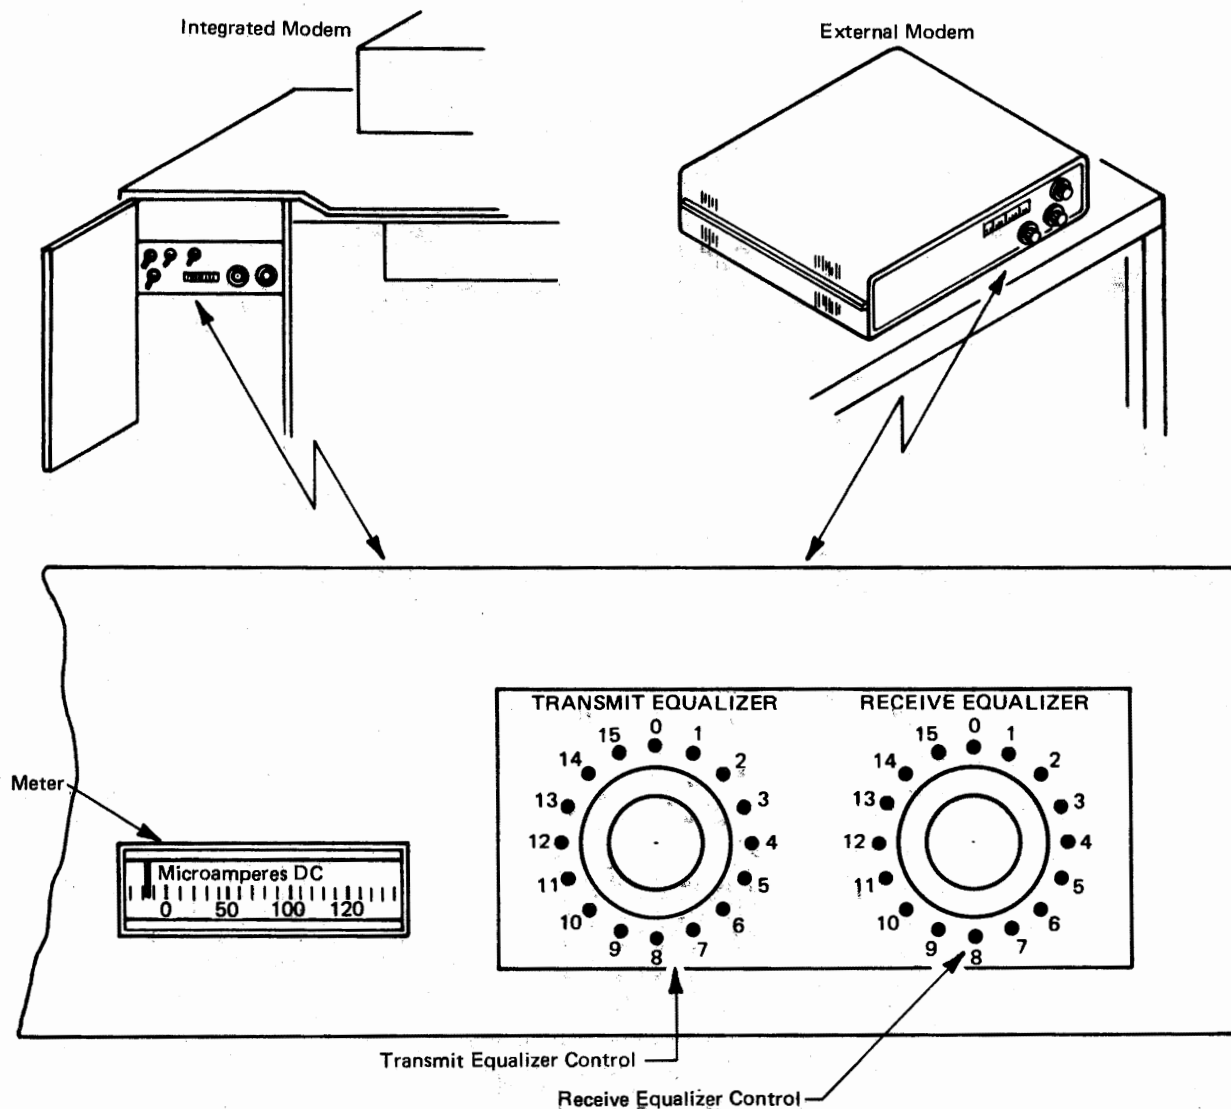

Figure 3-4. Modem Panel Showing Equalizer Controls
- 8** Look at the modem panel (see Figure 3-4) to see if it has a RECEIVE EQUALIZER.
- 9** As you turn the RECEIVE EQUALIZER knob clockwise to each setting, watch the meter to get the lowest meter reading. (See Figure 3-4.)